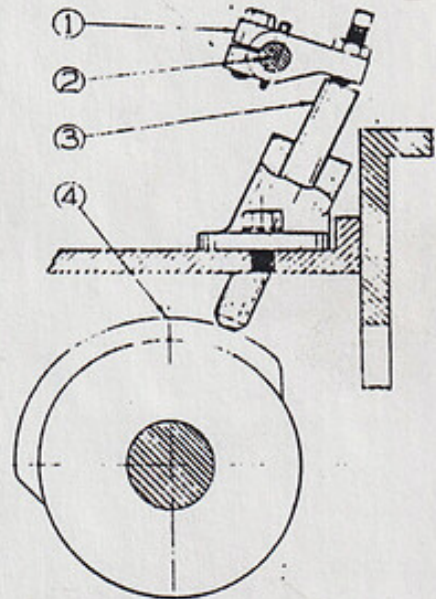

FIG. R-6
The fuel cut-out plunger is illustrated in Fig. R-6. As shown in Fig. R-6 the latch shaft is in or near the "STOP" position, with plunger (5) up on cam (4), which is mounted on one of the latch shaft webs. The upper end of the plunger has engaged the adjusting screw in lever (1), rotating the lever and the fuel wedge shaft (2) to pull out the fuel wedges and cut off fuel from the engine. The adjusting screw in lever (1) should be set to allow $\frac{1}{8}$ " clearance with the top of the plunger when the latter is down off the cam and the fuel wedges are in at the full load position.